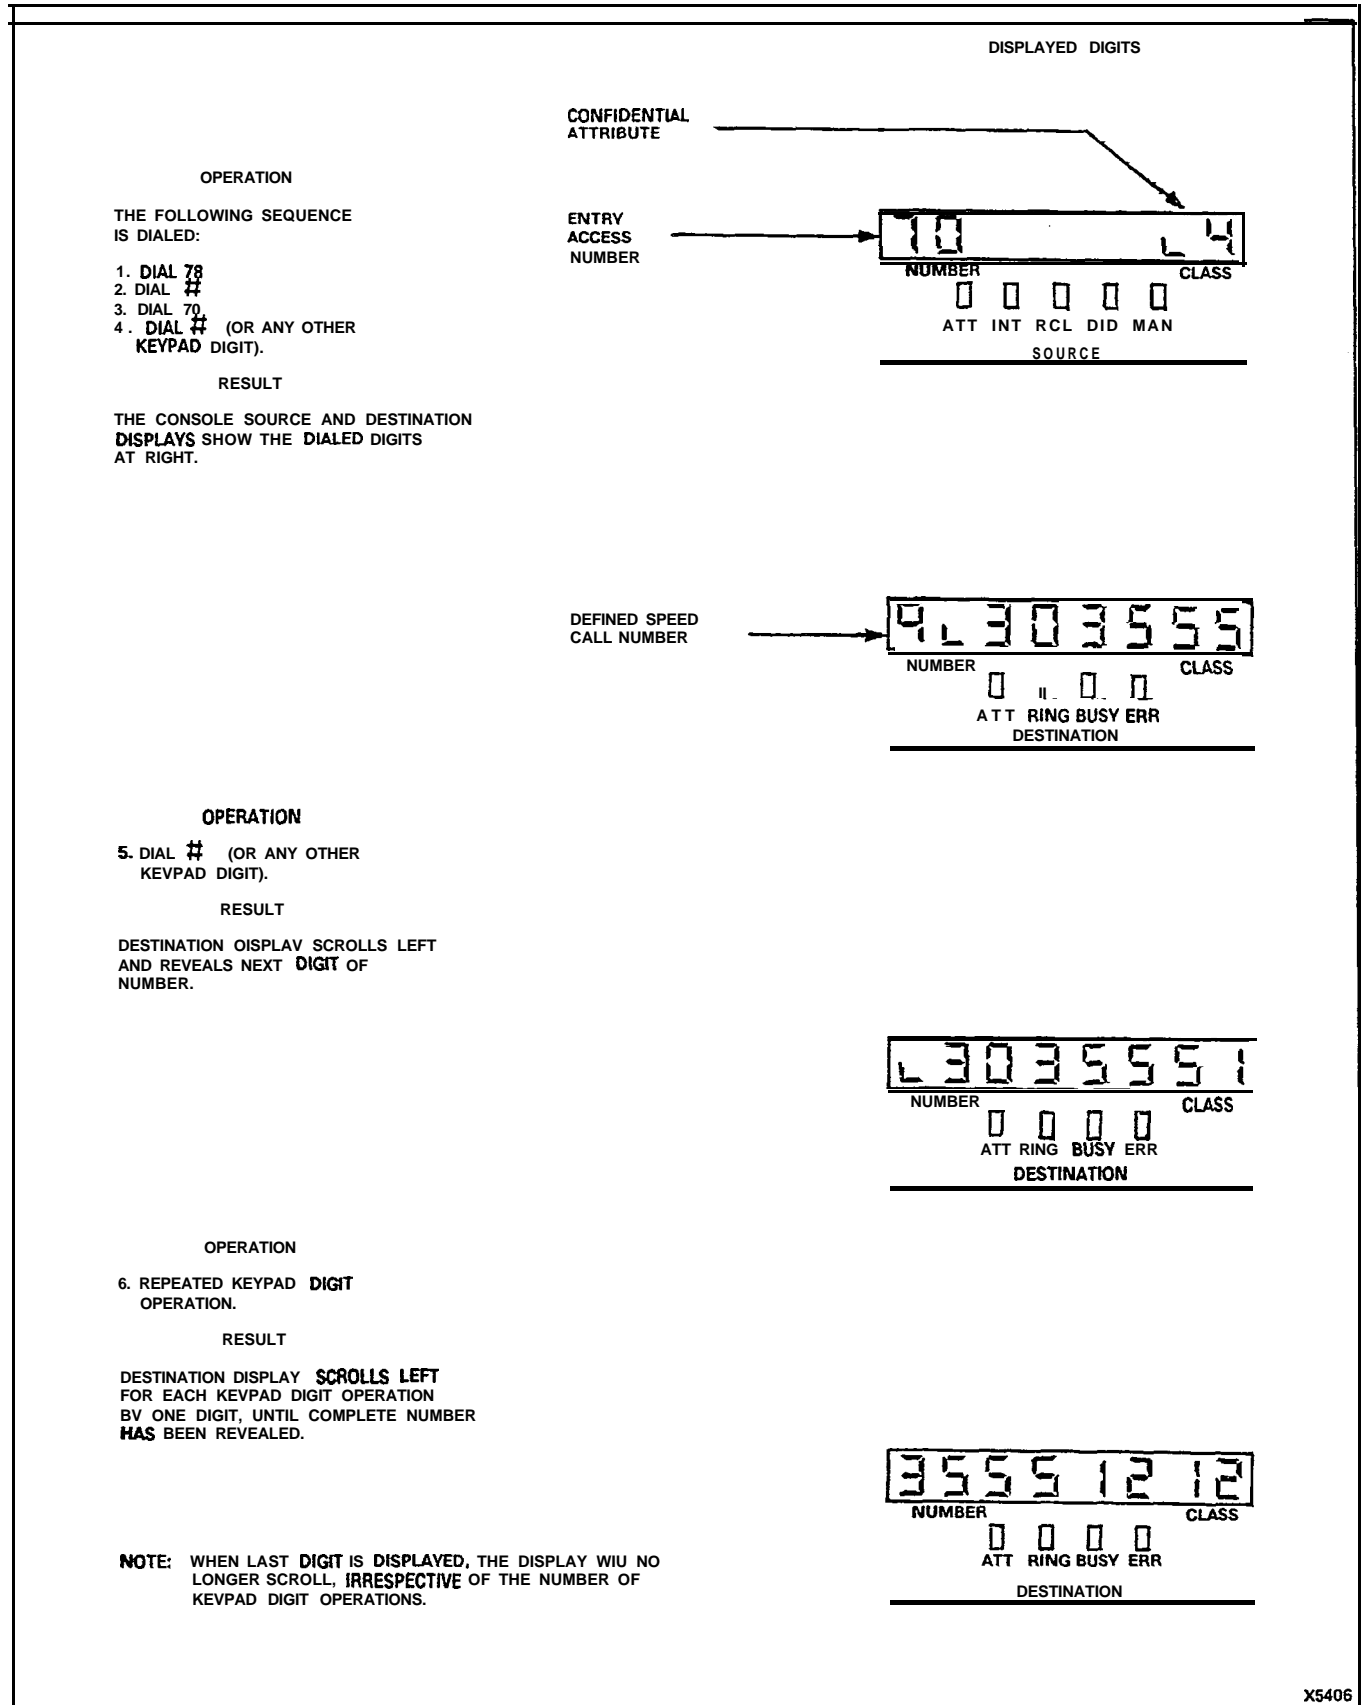

Figure 5-1 Speed Call Number Display Example
5.04 The display procedure shown in Figure 5-1 applies to a table which has a speed call access number 70, and a speed call number defined as 9*3035551212. The Speed Call access code has been programmed as 78 in the example. The console RELEASE key is pressed to clear the display.
5.05 If the attendant can display confidential speed call numbers (Le., System Option 289 is enabled), then when such a number is displayed, the last two digits in the SOURCE display will be "L4". Figure 5-1 illustrates this attribute.